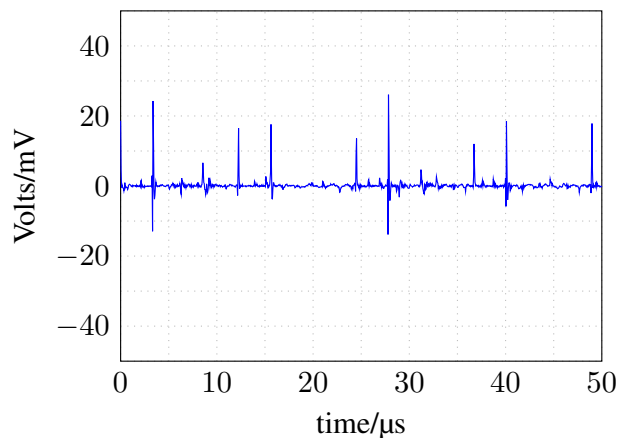

Fig. 41: Well-adjusted signal on CHOP. The vertical spikes are harmless. They are the result of switching activities of the PWM-based multiplier.
4. Turn the **Channel Level** potentiometer P1 off (fully counter-clockwise) and adjust TR4 for no signal bleedthrough on **CHOP** by looking for best possible alignment of the horizontal part of the signal. See Fig. 40 and Fig. 41 for an illustration of the calibration procedure.